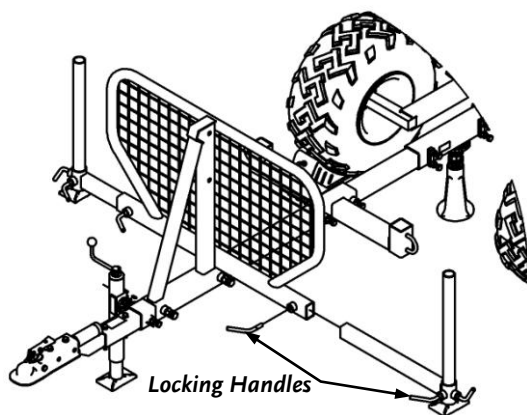

Figure 23
2. Slide the Adjustable Stabilizer Arms all the way into the Operator Guard and screw in two Locking Handles to hold the Arms in place (**Figure 23**).